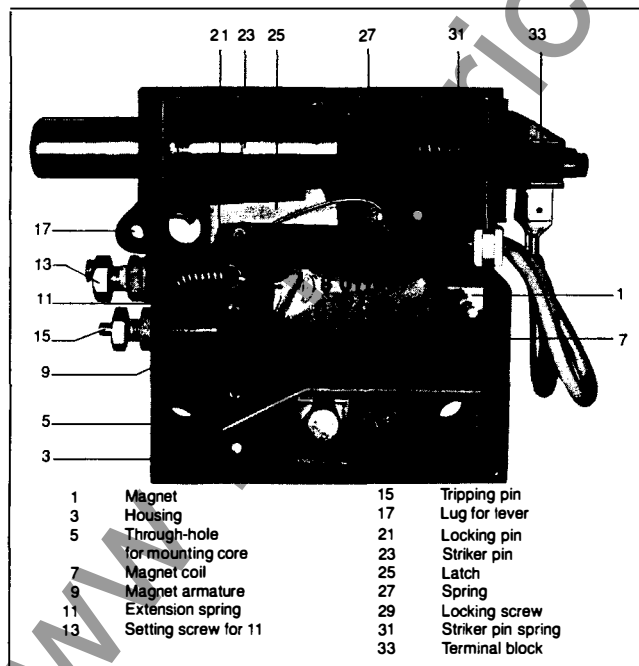

Figure 16
Refer to Figures 16 and 17
The release consists of a spring-power storing mechanism, a latching device and an electromagnet. These elements are accommodated side by side in a housing, (3) (fig. 16) with a detachable cover and three through holes, (5), for mounting screws. The supply leads for the trip coil are connected to a terminal block, (33). Two lugs, (17), are fitted beside the tripping pin, (15), for the attachment of a manual tripping lever.